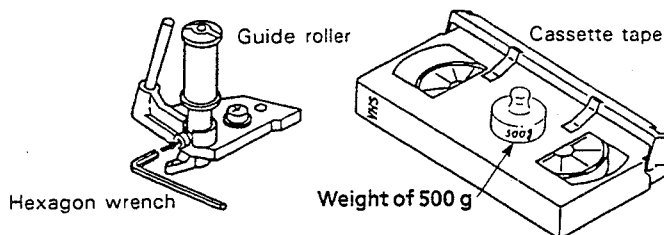

Figure 1-53.
- b) Loosen the setscrew at the lower part of the guide roller, and adjust it with an adjusting screw driver (JIGDRIVERH-4) so that the guide roller turns smoothly. (Do not overloosen the setscrew, which causes insecurity of the guide roller.) (See Figure 1-53.)